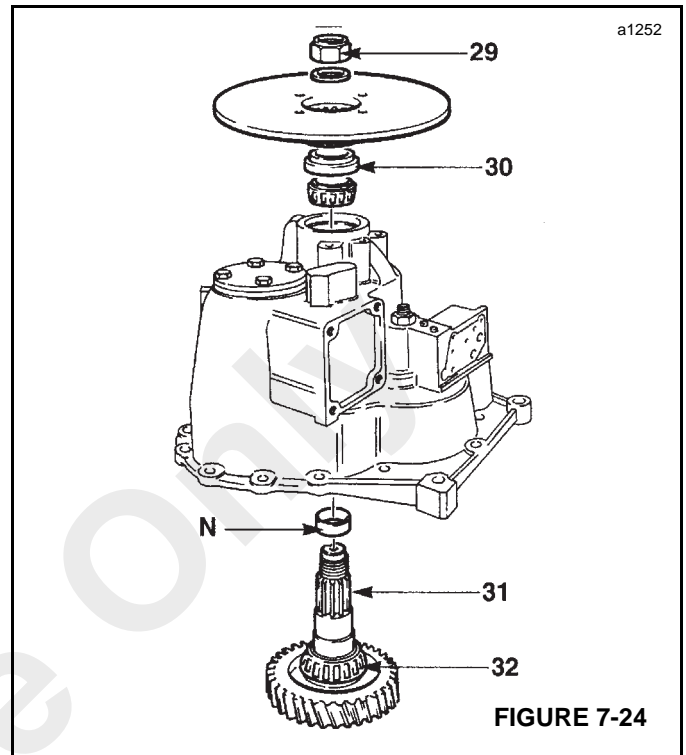

FIGURE 7-24
- 29. Mark the location of the disc on the splined shaft. While retaining the brake disc from turning, unscrew output shaft nut (29, Figure 7-24).
- 30. Pry out oil seal (30) and discard.
- 31. Remove output shaft assembly (31) and remove outer bearing M. Remove and discard spacer and any shims at N.
- 32. Using a suitable bearing puller, remove output inner bearing (32).